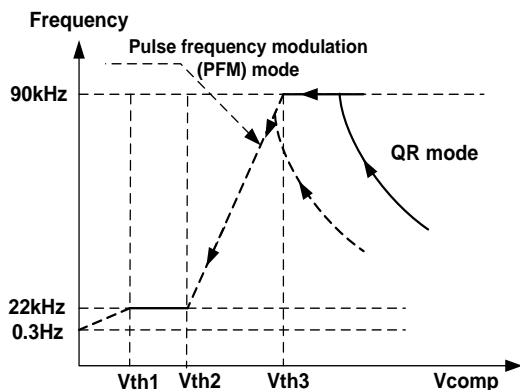

Figure 2 Multi-mode operation diagram
OB2576x is an excellent integrated multi-mode (see Figure 2) PWM controller optimized for off-line middle power AC/DC applications. It operates in quasi-resonant mode (QR) to provide high efficiency with primary side sensing and regulation thus provides cost effective solution for energy efficient power supplies.